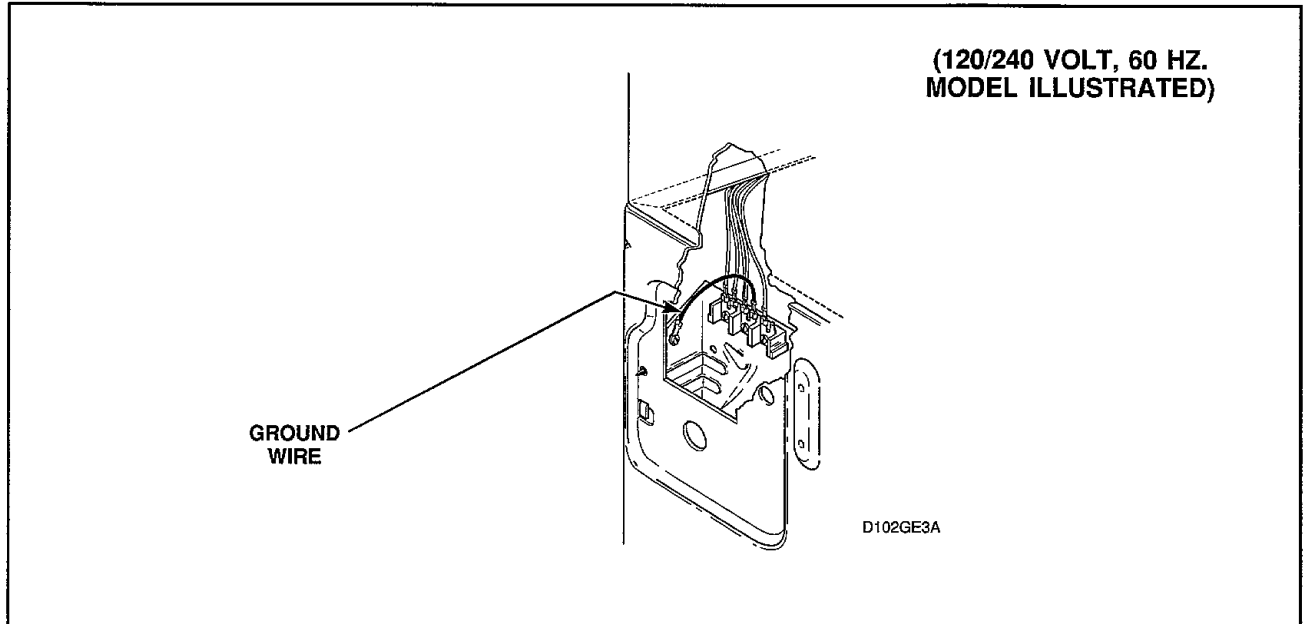

Figure 2
2. NEUTRAL AT TERMINAL BLOCK TO REAR BULKHEAD (Electric Models Only — Figure 2).